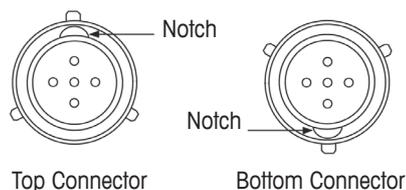

Figure 3-8: Load Cell Cable Connectors
- The connector is keyed in the proper orientation. The key inside the lower connector is positioned 180° opposite of the top connector (see Figure 3-8).